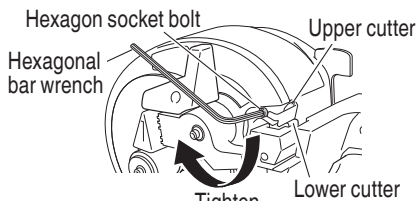

Fig. 29
- (7) Using the included hexagonal bar wrench, make sure that the hexagon socket bolt is fully tightened. (Fig. 29)